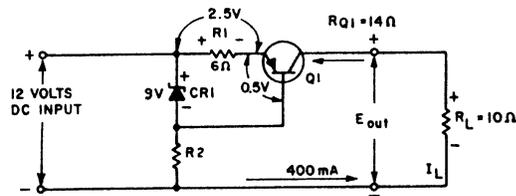

Fig 4-43. Current regulator (with a decrease in  $R_L$ ).
Since you are familiar with the basic current regulating circuitry, let's examine in detail how the various components work to maintain the constant 400-milliampere output. Refer to the schematic shown in figure 4-43. Remember, a decrease in load resistance causes a corresponding increase in current flow. In the example shown, the load resistance  $R_L$  has dropped from 15 ohms to 10 ohms. This results in a larger voltage drop across  $R_1$  because of the increased current flow. The voltage drop has increased from 2.4 volts to 2.5 volts. Of course, the voltage drop across  $CRI$  remains constant at 9 volts due to its regulating ability. Because of the increased voltage drop across  $R_1$ , the forward bias on  $Q_1$  is now 0.5 volt. Since the forward bias of  $Q_1$  has decreased, the resistance of the transistor increases from 9 ohms to 14 ohms. Notice that the 5-ohm increase in resistance across the transistor corresponds to the 5-ohm decrease in the load resistance. Thus, the total resistance around the outside loop of the circuit remains constant. Since the circuit is a current regulator, you know that output voltage will vary as the regulator maintains a constant current output. In the figure, the voltage output is reduced to 4 volts, which is computed by multiplying current ( $I$ ) times resistance ( $R$ ) ( $400 \text{ mA} \times 10 \text{ ohms} = 4 \text{ volts}$ ).
10. In figure 4-43 any decrease in the base-emitter forward bias across  $Q_1$  results in \_\_\_\_\_ in the resistance of the transistor.